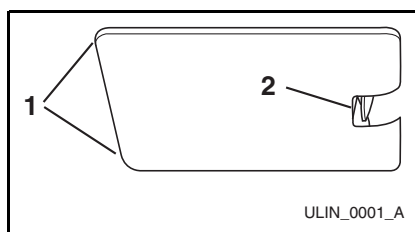

Figure 30
1. Grasp the edges of the light housing lens (**Figure 30, 1**) opposite the exposed tab, and gently push the lens towards the tab (**Figure 30, 2**).
2. Pull the edge of the lens down (**Figure 30, 1**), and swing it out of the light housing.